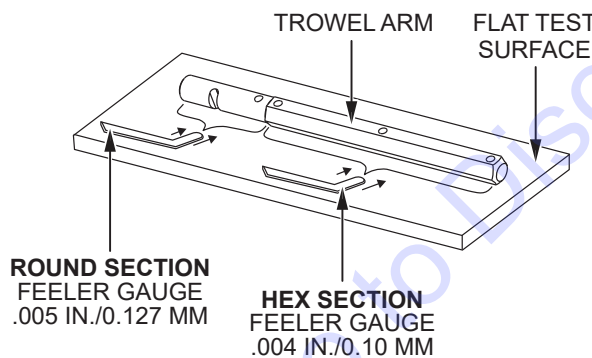

Figure 63. Trowel Arm Inspection
1. Place the trowel arm on a thick, steel plate, granite slab, or any other surface which is **true** and **flat** (Figure 63).
2. Check each of the six sides of the trowel arm hex section (Figure 63). A feeler gauge of 0.004 inch (0.10 mm) should not pass between the flat of the trowel arm and the test surface along its length on the test surface.
3. As the flat hex section rests on the test surface, use a feeler gauge of 0.005 inch (0.127 mm) to check the clearance between the round shaft section and the test surface. Rotate the arm to each of the flat hex sections and check the clearance between the round shaft and the test surface. The clearance between the round shaft and the test surface should be identical for each hex section. See Figure 63.